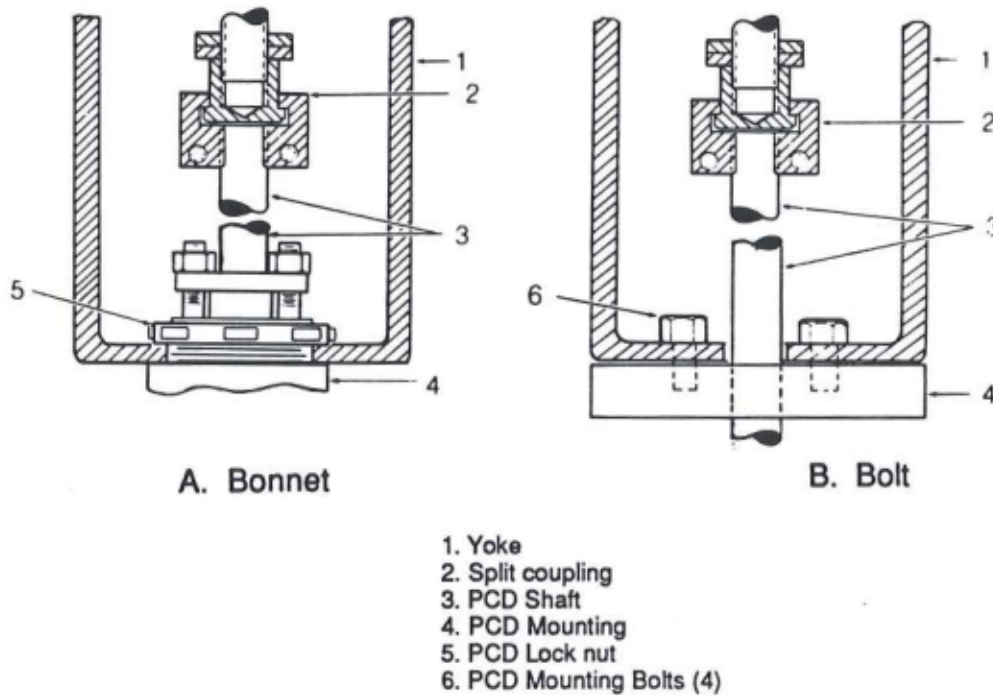

Figure 1-3A/B. Typical Hydramotor Bonnet/Bolt Mounting
- 4). Thread the appropriate stem adapter (see Table 1-12) onto the Hydramotor shaft. (For bonnet mounting only, remove the lock nut (see Figure 1-3A) from the valve bonnet.)